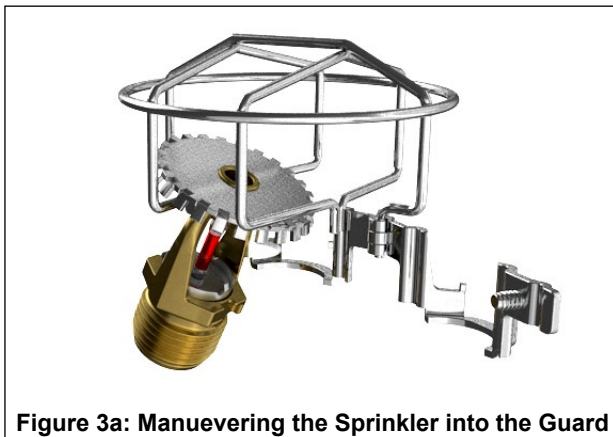

Figure 3a: Maneuvering the Sprinkler into the Guard
**NOTE: For Upright sprinklers, the sprinkler must be oriented and angled as shown (Figure 3a) in order to get the deflector inside the frame.**